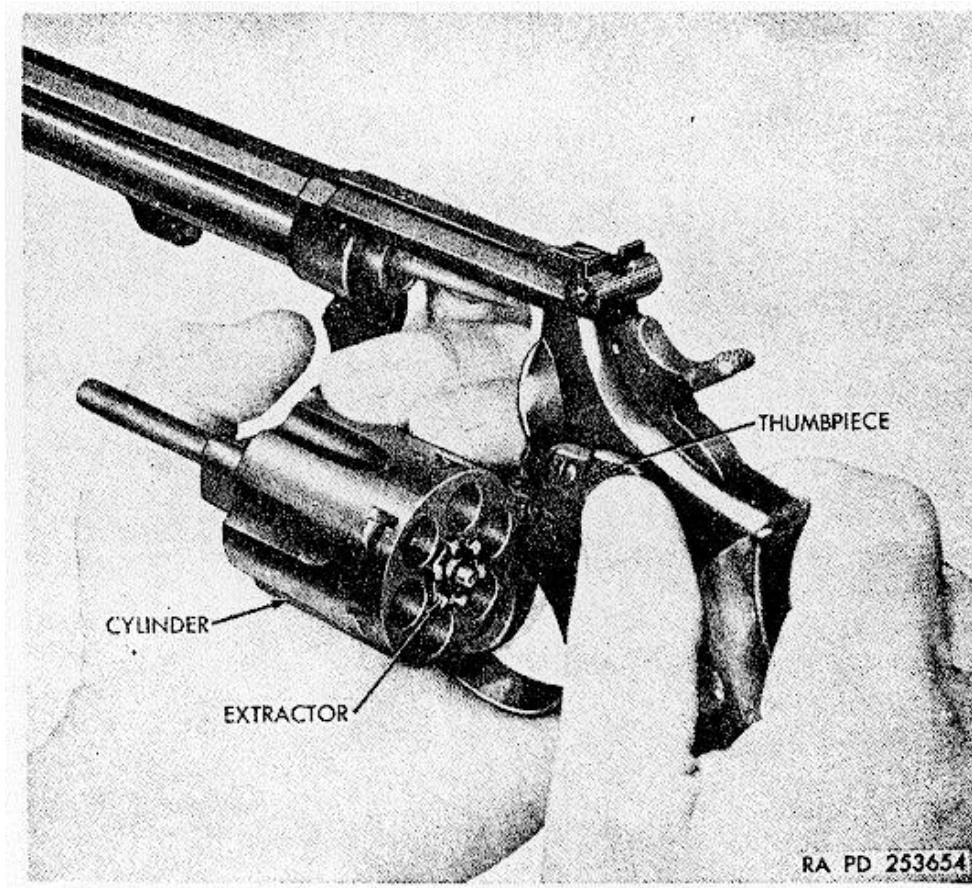

Figure 23. Pushing thumb piece to release cylinder (Smith and Wesson)
- (1) The thumb piece (fig. 23) is located on the left side of the revolver above the stock. It is knurled and shaped to fit the thumb.
- (2) Pressing the thumb piece forward depresses the bolt plunger. This depresses the center rod which in turn
- (4) To lower cocked hammer on a loaded chamber without firing, draw the hammer slightly to the rear with the thumb. Press the trigger to disengage it from the hammer. Let hammer down slowly a short distance. Release trigger and lower hammer carefully as far as it will go.
d. *Cylinder and Yoke.* The cylinder (fig. 23) and